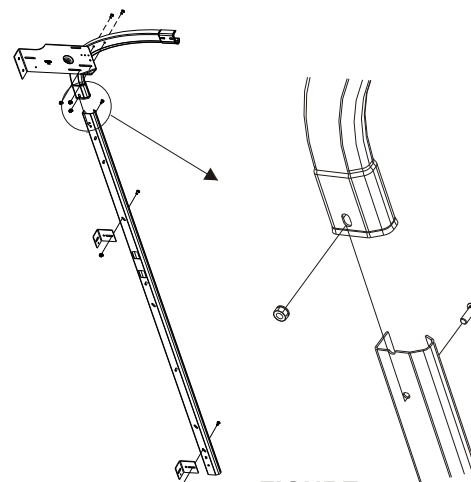

FIGURE 5
4. Install the transitional curve and headplate assembly on the vertical track assembly by sliding the vertical track into the swaged end of the curve track. (See Figure 5)